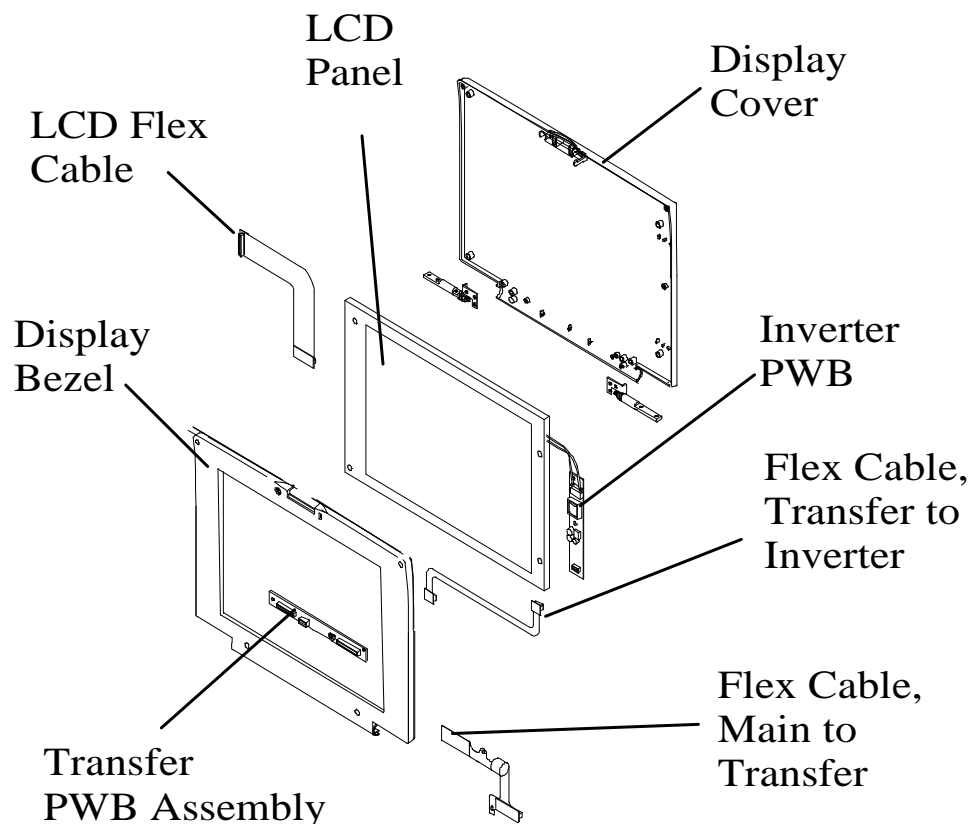

Figure 6-21 Removing/Replacing Internal Display FRUs
4. Refer to Figure 6-21 and remove the desired display FRU.